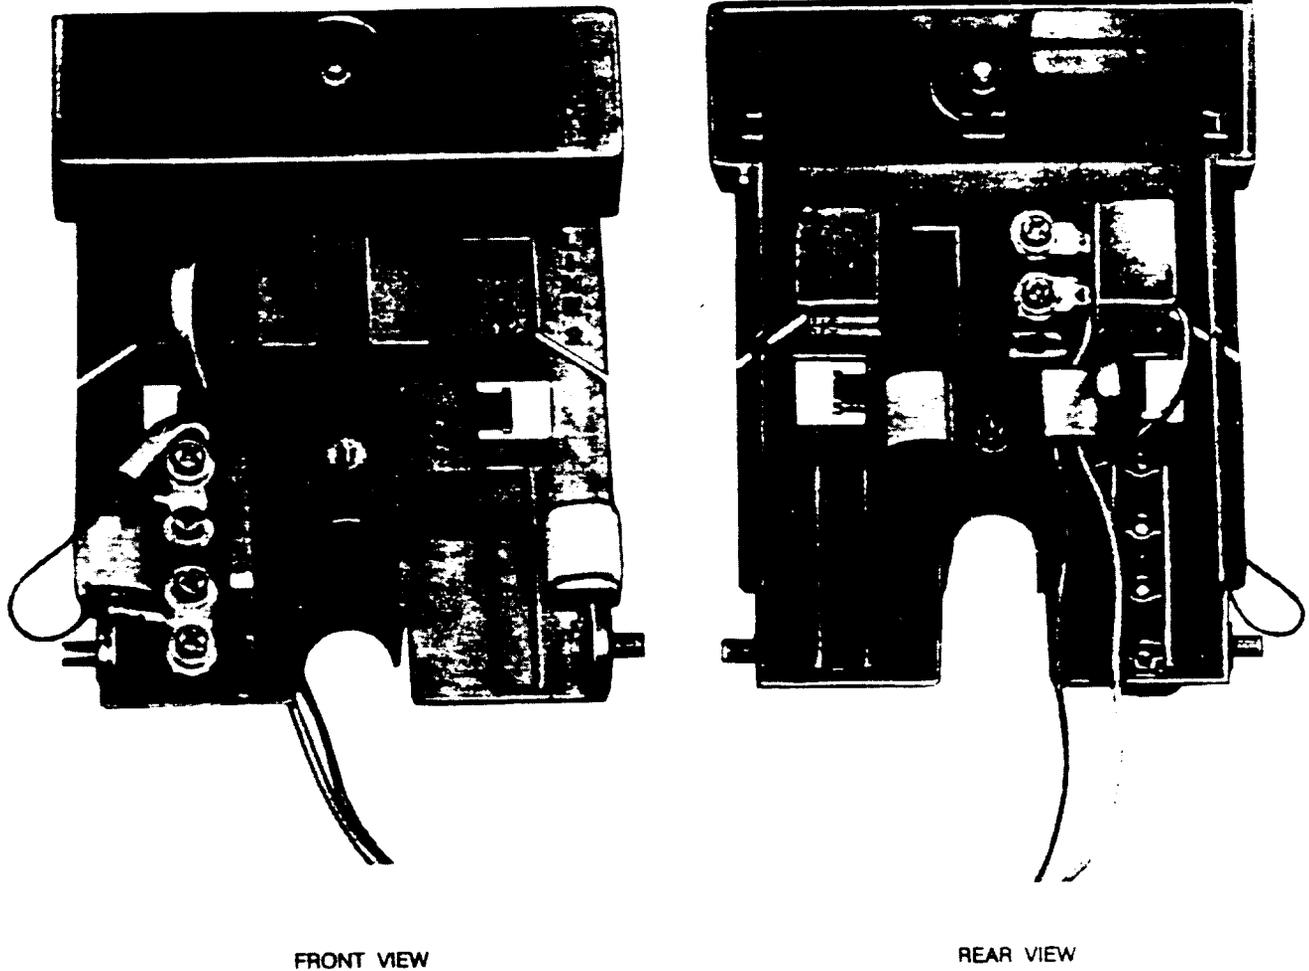

Figure 3. Swing Plate
3.05 The swing plate (Figure 3) inside the NIU provides access to the network side of the box. This cover has a recessed locking nut assembly to safeguard against subscriber entry.
5.02 The connections listed in Table C are wired (as required). The subscriber connects local prescribed wiring to the corresponding tip-ring subscriber connections located on the subscriber bridge connector. The local telephone company needs only to connect the network pairs to the station protector. With the exception of the protector-to-NIU connection, the connections are shown in Figure 3.